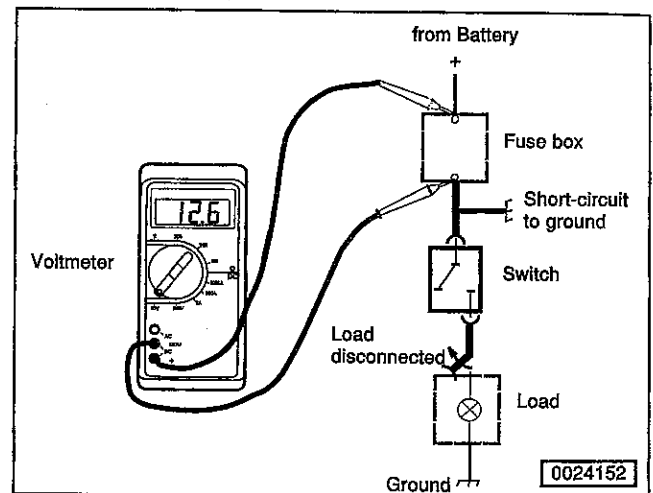

Fig. 4. Voltmeter being used to find short circuit.
3. Using a voltmeter, connect the test leads across the fuse terminals. See Fig. 4. Make sure power is present in the circuit. If necessary, turn the key on.